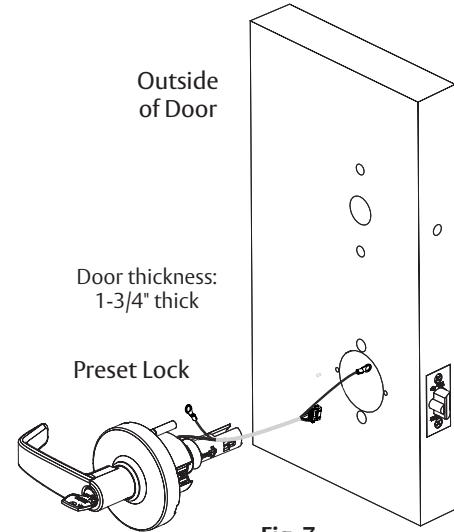

Fig. 7
a. Lockbody holes are at 12 and 6 o'clock. (Fig. 7)